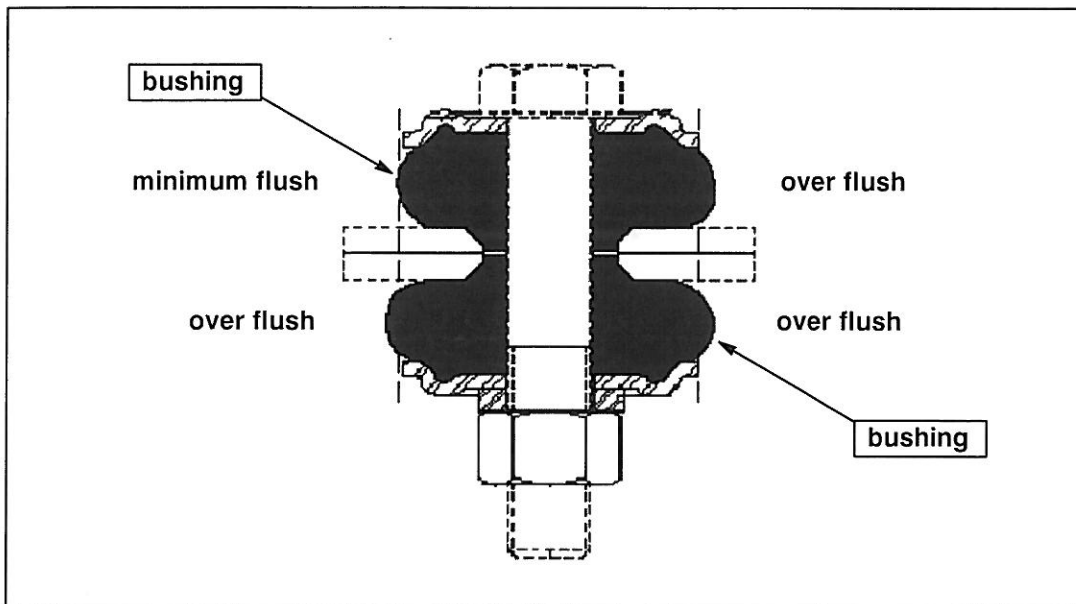

Figure 3. Bushing deflection.
Shock stud connections should be tightened, crushing the rubber bushings so that they are flush with the steel washers. When the shock is not perfectly perpendicular to the mounting plate, the rubber bushings should be flush with the steel washers at one (1) point, and proud (over flush) of the steel washer at all other points (refer to Figure 3).